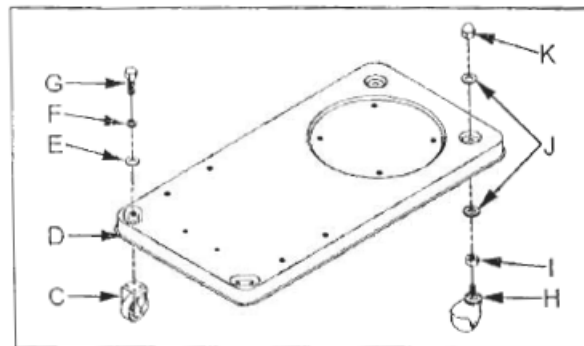

Fig. 3
3. Mount two fixed casters (C, Fig. 3) to the appropriate end of base (D, Fig. 3) using four M6 flat washers (E, Fig. 3), four M6 lock washers (F, Fig. 3) and four M6x12 hex cap bolts (G, Fig. 3).
4. Mount two swivel casters (H, Fig. 3) to the appropriate end of the base with two 3/8" hex nuts (I, Fig. 3), four M10 flat washers (J, Fig. 3), and two 3/8" acorn nuts (K, Fig. 3).